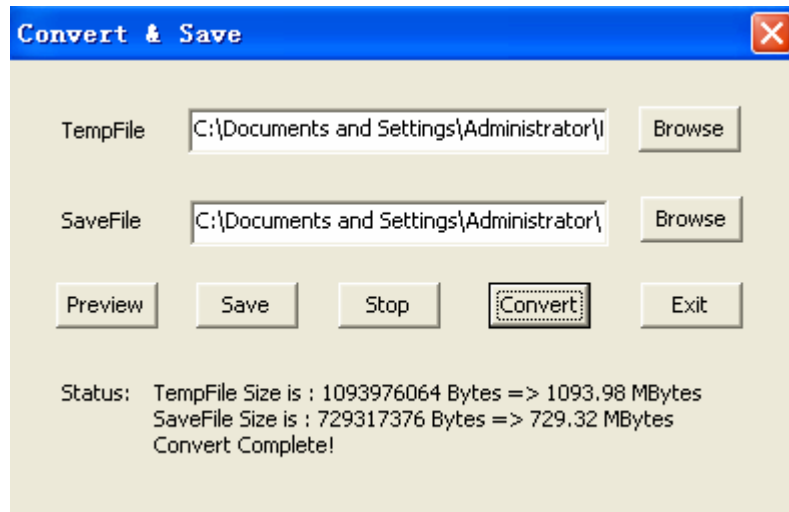

Figure 12: Convert
6. Click "convert", the system will change the temp file into the target file that can be stored in the SD card. See Figure 12, the dialogue box will show the status of the converted file, when it shows "Convert complete", that